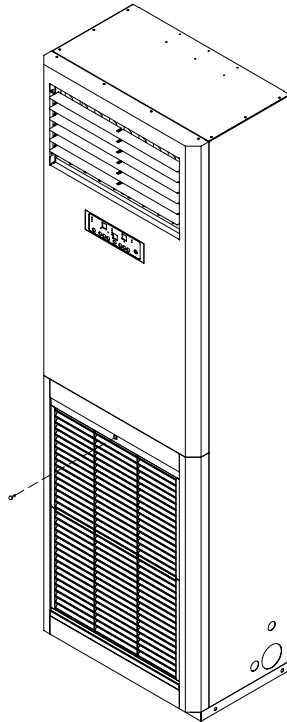

Figure 1
- Remove a mounting screw at return air grille. (Figure 1)